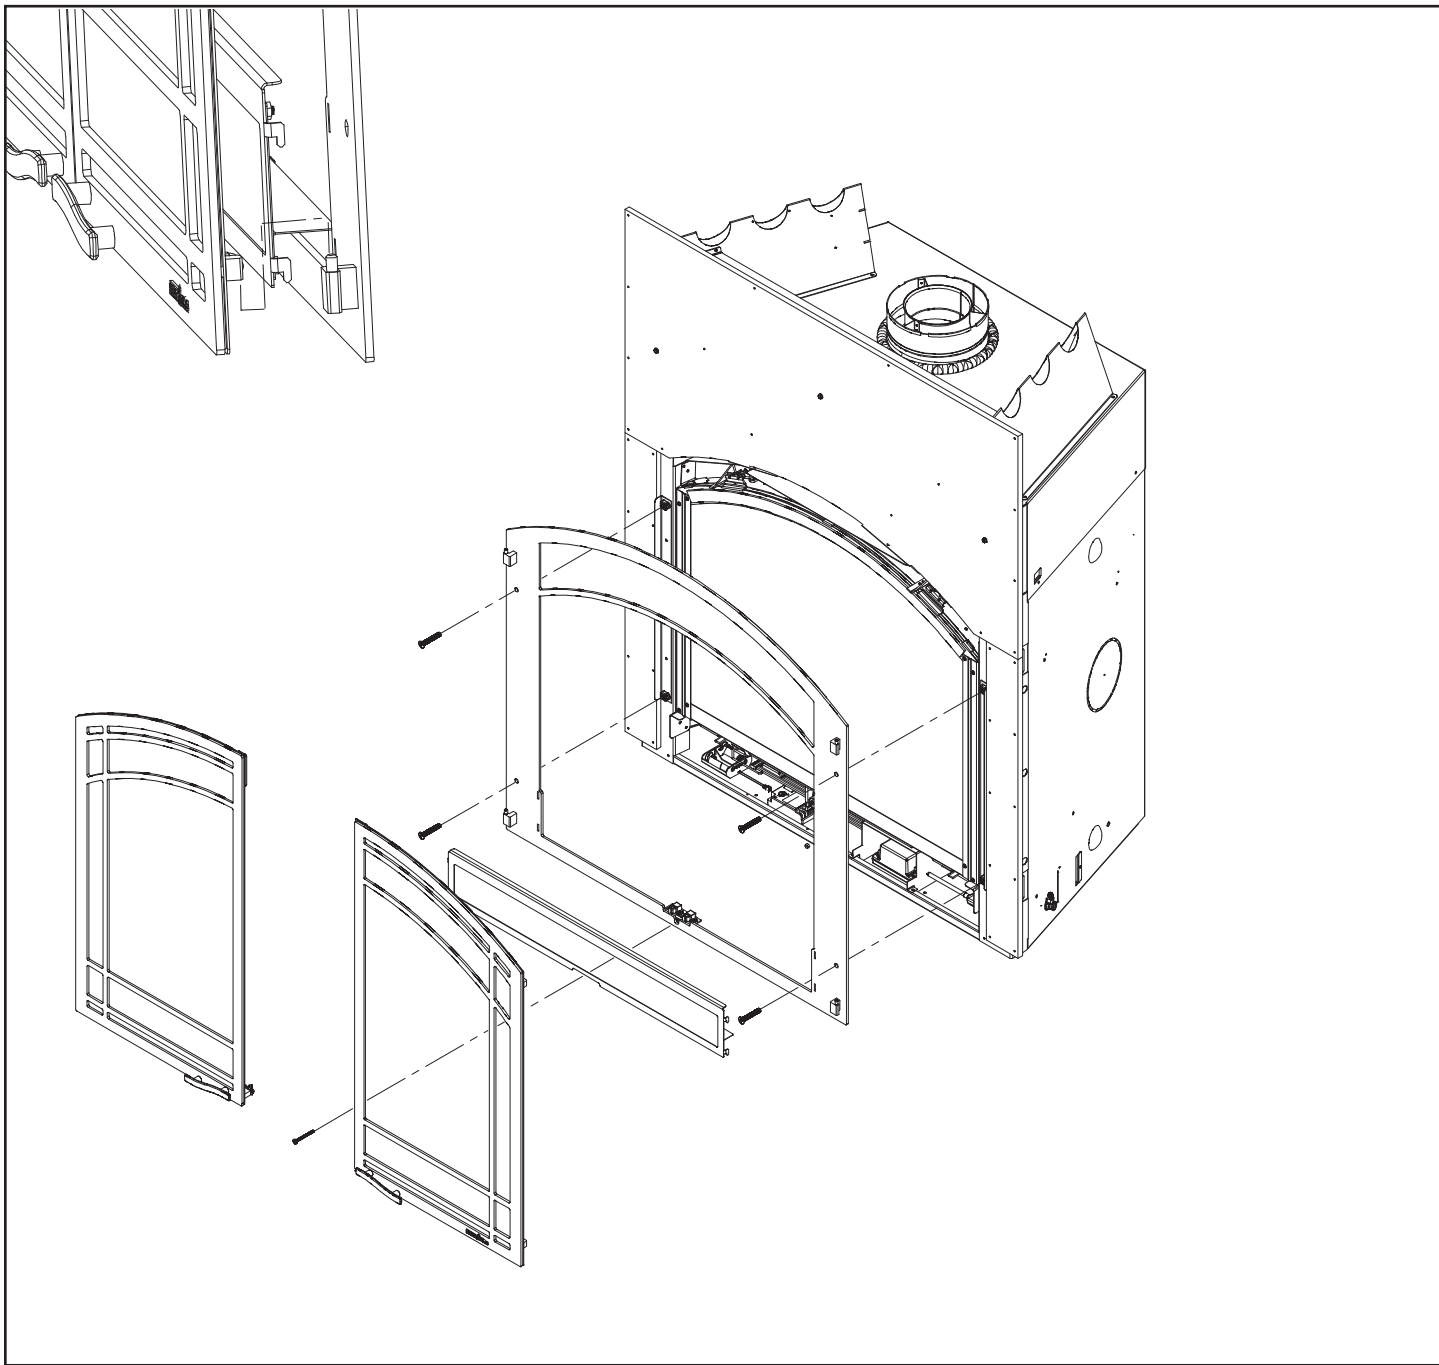
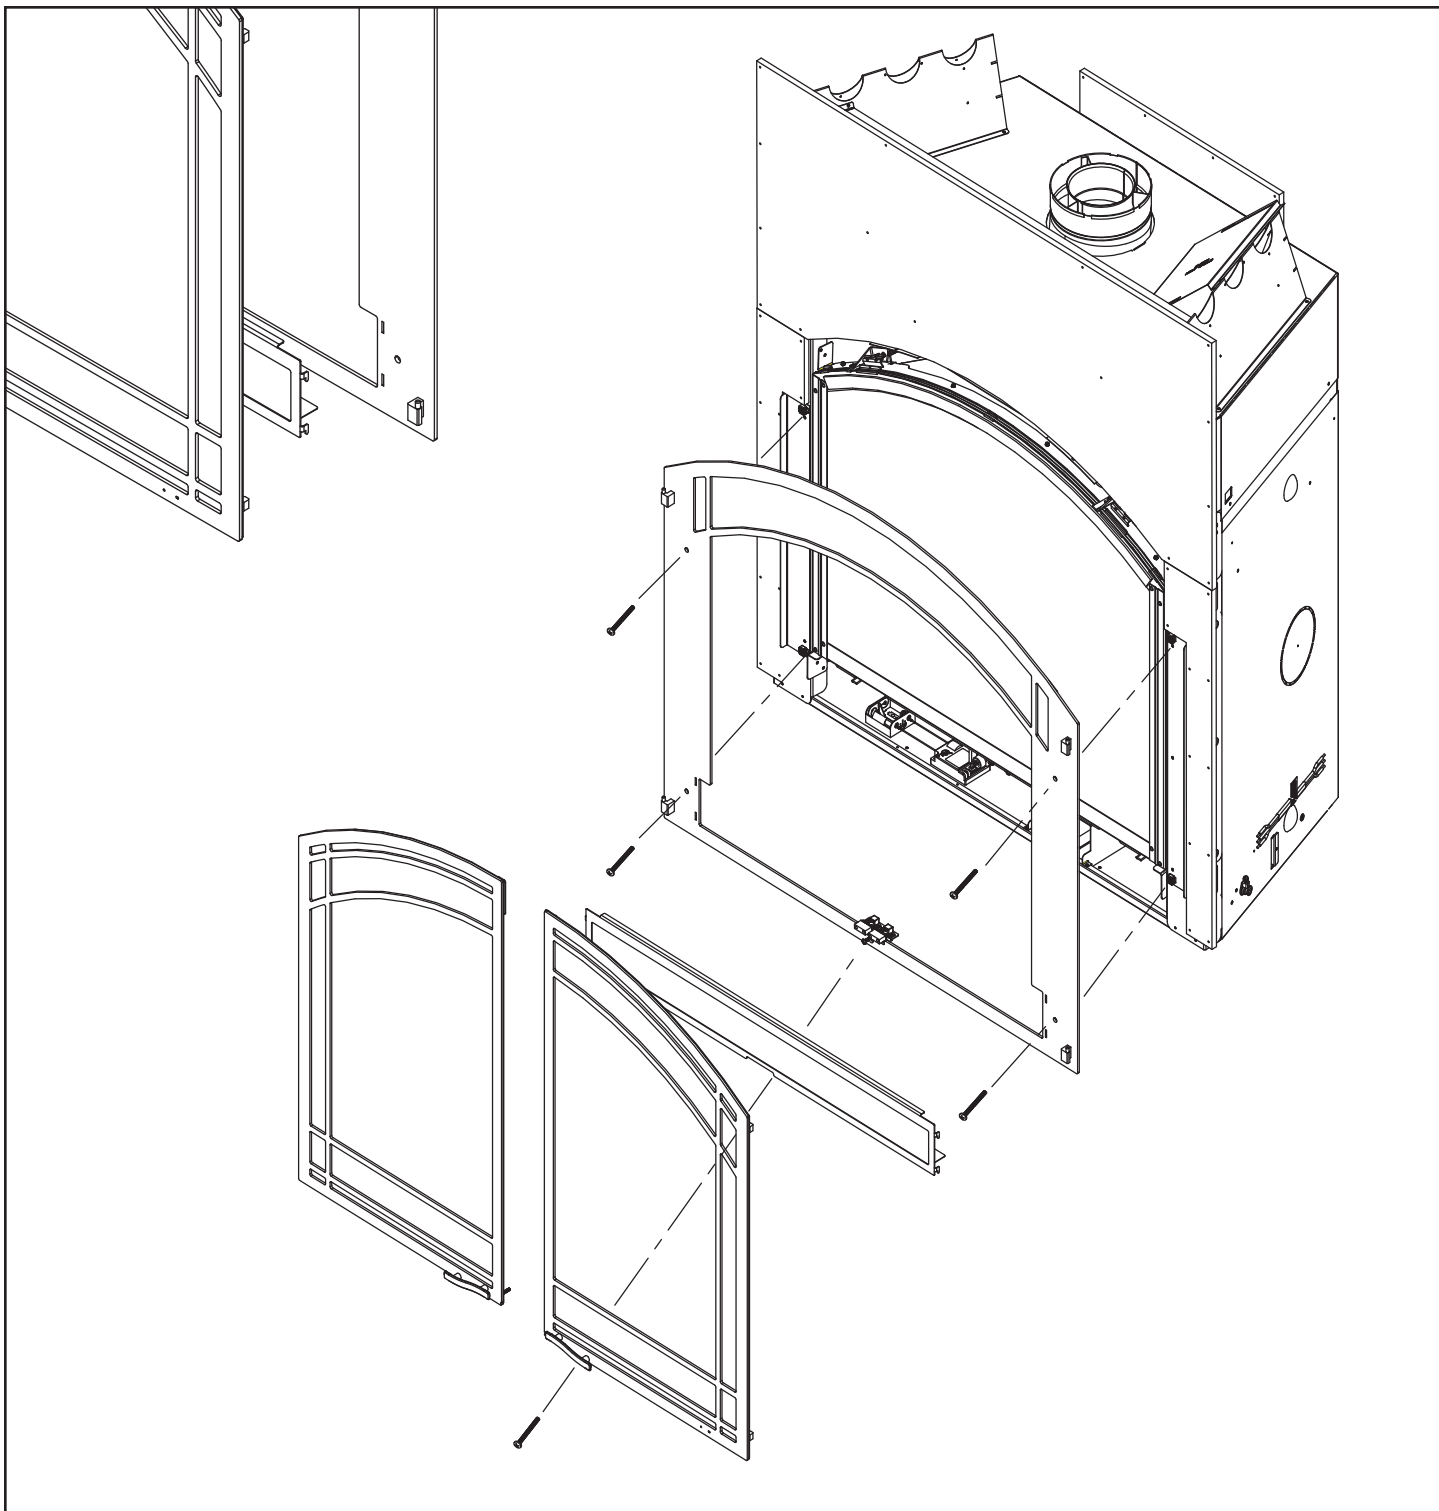

Figure 2. Cerona-36
Figure 3. Cerona-42
3. See Figure 2 for assembly details on Cerona-36 and Figure 3 for assembly details on Cerona-42.